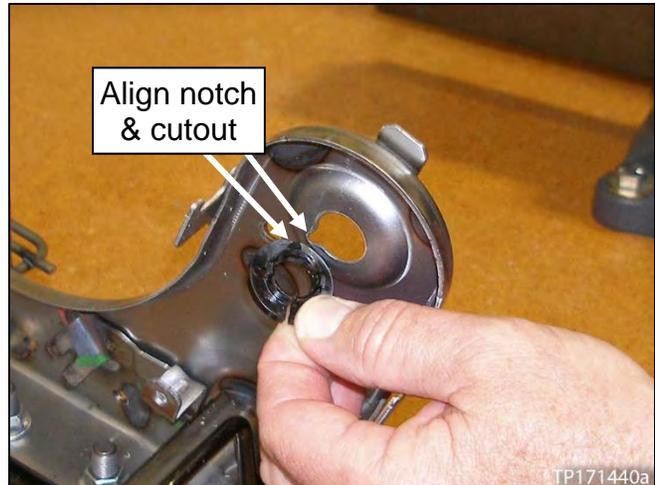

Figure 48a
- For proper installation, make sure the notch is aligned with the cutout (see Figure 48a and 49a).